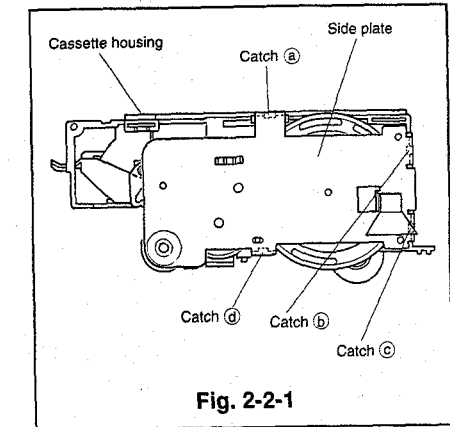
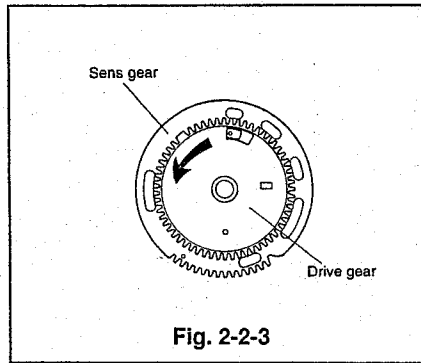
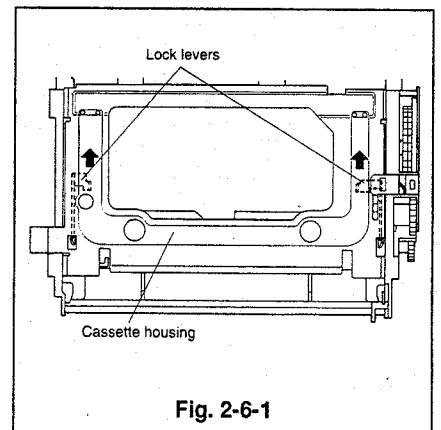
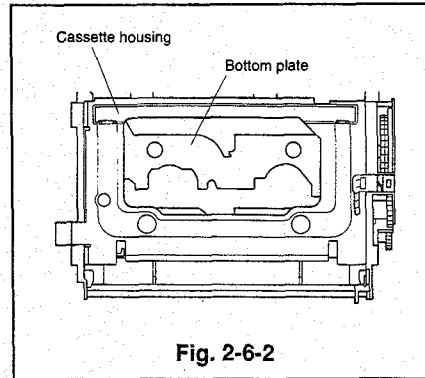

Fig. 2-2-1
Fig. 2-2-3
Fig. 2-6-1
Fig. 2-6-2
- ② Unfasten the four catches (a, b, c and d) as shown in Fig. 2-2-1 and remove the side plate.
- ③ Remove the sens gear.
- ④ Pull the lock levers on both the supply and takeup sides, shown in Fig. 2-6-1, in the direction shown by the arrow to shift the bottom plate to the position shown in Fig. 2-6-2.
- ⑤ Remove the takeup arm.
- ⑥ To remove the drive gear from the sens gear, turn and pull the drive gear in the direction shown by the arrow shown in Fig. 2-2-3.
- ⑦ Install the takeup arm so that the shaft from the bottom plate enters between the takeup arm and takeup spring, after the bottom plate is in the position shown in Fig. 2-6-2.
- 4 Pull the lock levers on both the supply and takeup side, shown in Fig. 2-6-1, in the direction shown by the arrow to shift the bottom plate to the position shown in Fig. 2-6-2.